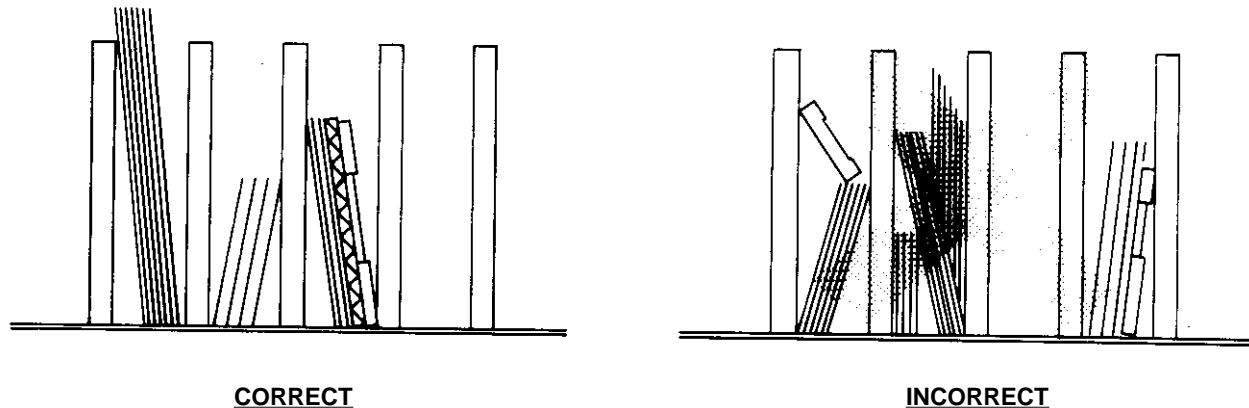

FIGURE 3 - STORAGE OF RAW MATERIAL IN WORK AREA
5.3.4 Storage of Raw Material in Work Areas (see Figure 3)